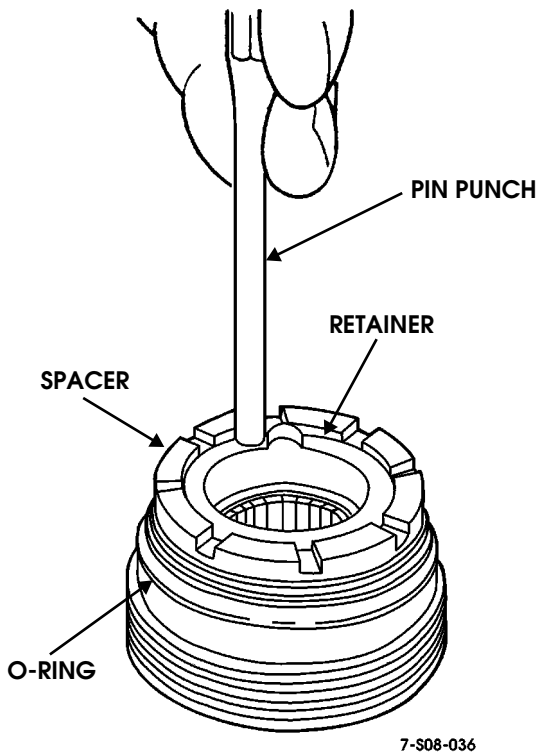

Figure 8-62: Seating Adjuster Plug Retainer
8. Install O-ring on stub shaft cap (Figure 8-62).
9. Align slot in valve body with pin in wormshaft flange and insert wormshaft into valve body (Figure 8-62). Be sure wormshaft flange is fully seated in stub shaft.
6. Seat retainer in adjuster plug with pin punch (Figure 8-62).
7. Install O-ring on adjuster plug (Figure 8-62).